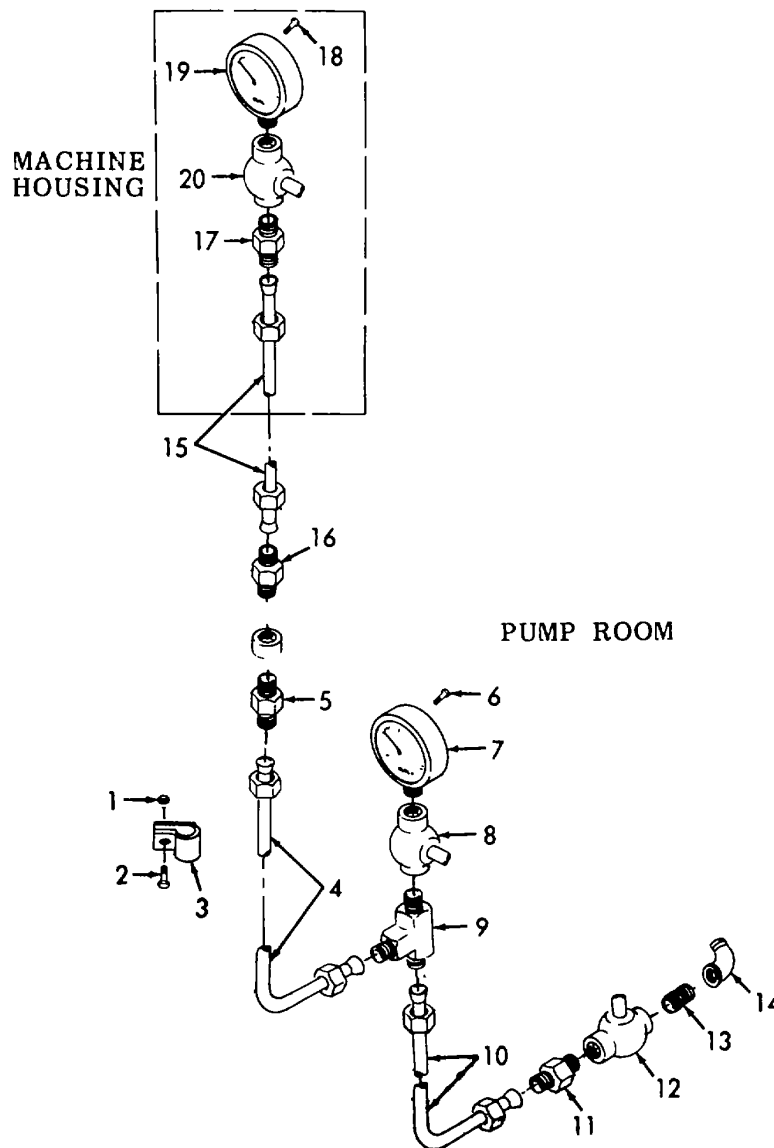

Figure 3-115. Pressure Gauges, Removal/Installation.
a. Removal. (Refer to figure 3-115).
- (1) Remove ten nuts (1), ten screws (2), and ten clamps (3). Remove tube(4) and adapter (5).
- (2) Remove two screws (6), gauge (7), valve (8), tee (9), tube (10), adapter (11), valve (12), nipple (13), and elbow (14).
- (3) Remove tube (15), adapters (16 and 17), two screws (18), gauge (19), and valve (20).
- (1) Refer to figure 3-115 and install gauge (19) and secure with two screws (18). Install valve (20), adapters (17 and 16), and tube (15).
- (2) Install elbow (14), nipple (13), valve (12), adapter (11) and tube (10).
- (3) Install tee (9), elbow (8), gauge (7), and secure with two screws (6).
- (4) Install adapter (5) and tube (4). Install ten clamps (3) and secure with ten screws (2) and ten nuts (1).